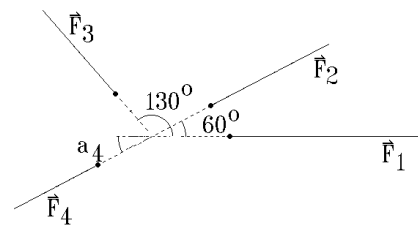

Figure 6 Procedure 2 setup.
2. Repeat step 1a, using only the component addition method with 4 spring balances (see figure 6). Draw the forces F_1 , F_2 , F_3 , and F_4 approximately as illustrated. Find and add the components of F_1 , F_2 , and F_3 . Compute the magnitude and direction of the sum of these forces and compare your result with a_4 and F_4 . Do your measurements satisfy the requirements of Newton's second law?